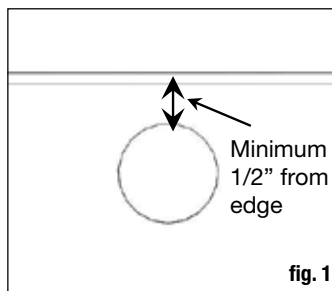

fig. 1
**Step 2:** Layout the location of the light(s). To prevent splitting, do not install within 1/2" of the edge of the light and the edge the deck board (fig. 1).